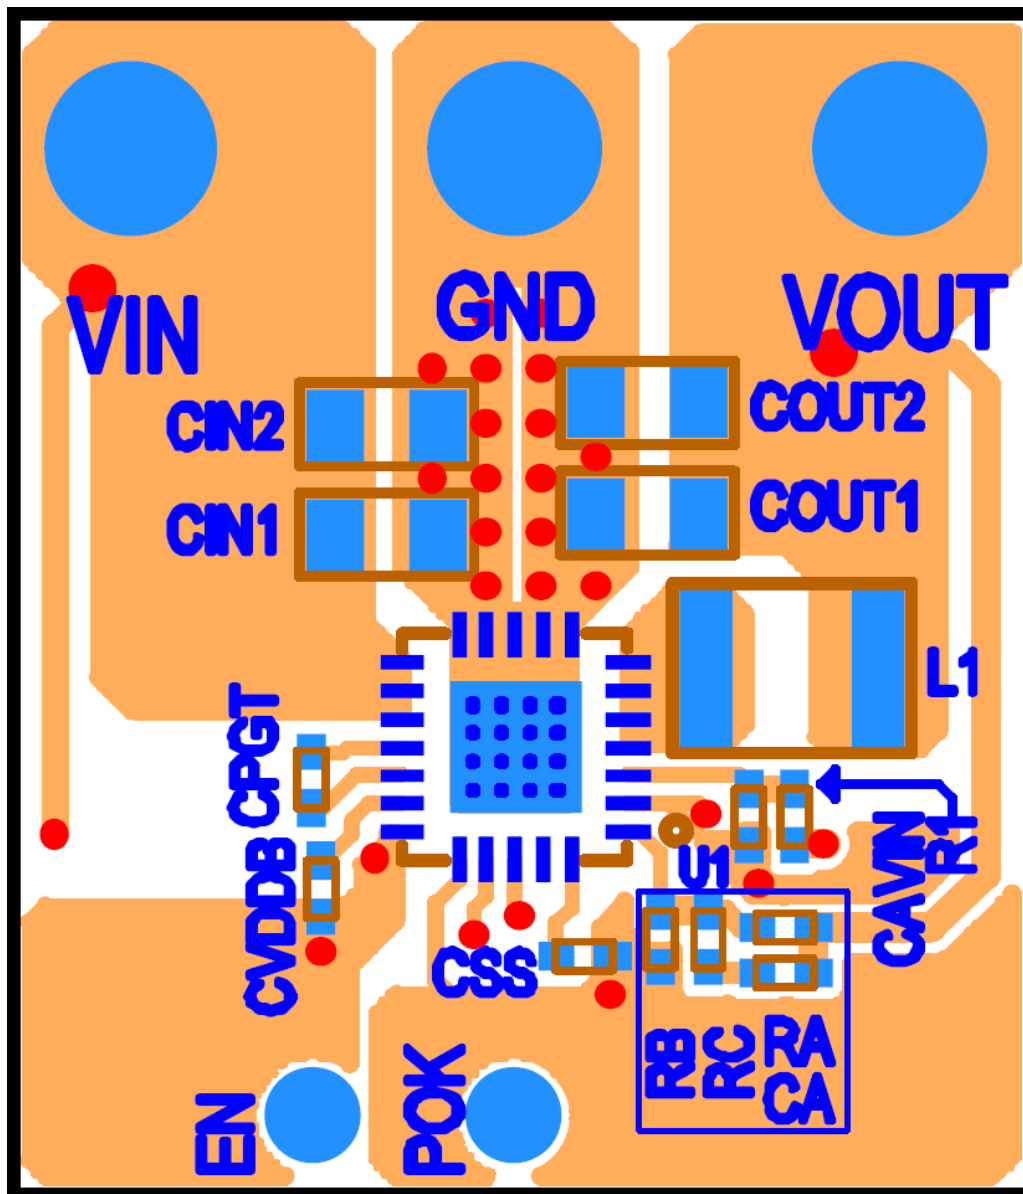

Figure 12: Top PCB Layer Critical Components and Copper for Minimum Footprint (Top View)
Figure 12 shows critical components and layer 1 traces of a recommended minimum footprint ER6230QI layout. ENABLE and other small signal pins need to be connected and routed according to specific customer application. Visit the Enpirion Power Solutions website at [www.altera.com/powersoc](http://www.altera.com/powersoc) for more information regarding layout. Please refer to this Figure 12 while reading the layout recommendations in this section.
**Recommendation 2:** Half of the PGND pins are dedicated to the input circuit and the other half to the output circuit. The slit shown in Figure 12 separating the input and output GND circuits helps minimize noise coupling between the converter input and output switching loops.
**Recommendation 4:** The large thermal pad underneath the device must be connected to the system ground plane through as many vias as possible. The drill diameter of the vias should be 0.33mm, and the vias must have at least 1-oz. copper plating on the inside wall, making the finished hole size around 0.2mm to 0.26mm. Do not use thermal reliefs or spokes to connect the vias to the ground plane. This connection provides the path for heat dissipation from the converter. Please see Figure 12.
**Recommendation 5:** Multiple small vias (the same size as the thermal via discussed in recommendation 4) should be used to connect ground terminal of the input capacitor and output capacitors to the system ground plane. Put the vias under the capacitors along the edge of the GND copper closest to the Voltage copper. Please see Figure 12. These vias connect the input/output filter capacitors to the GND plane, and help reduce parasitic inductances in the input and output current loops. If the via cannot be placed under  $C_{IN}$  and  $C_{OUT}$ , then put them just outside the capacitors along the GND slit separating the two components. Do not use thermal reliefs or spokes to connect these vias to the ground plane.
**Recommendation 6:** AVIN is the power supply for the internal small-signal control circuits. It should be connected to the input voltage at a quiet point. In Figure 12 this connection is made at the input capacitor furthest from the PVIN pin and on the input source side. Avoid connecting AVIN near the PVIN pin even though it is the same node as the input ripple is higher there.
**Recommendation 8:** Keep  $R_A$ ,  $C_A$ ,  $R_C$  and  $R_B$  close to the VFB pin (see Figure 12). The VFB pin is a high-impedance, sensitive node. Keep the trace to this pin as short as possible. Whenever possible, connect  $R_B$  directly to the AGND pin instead of going through the GND plane. The AGND should connect to the PGND at a single point from the AGND pin to the PGND plane on the 2nd layer.
**Recommendation 9:** The layer 1 metal under the device must not be more than shown in Figure 12. See the following section regarding Exposed Metal on Bottom of Package. As with any switch-mode DC-DC converter, try not to run sensitive signal or control lines underneath the converter package on other layers.